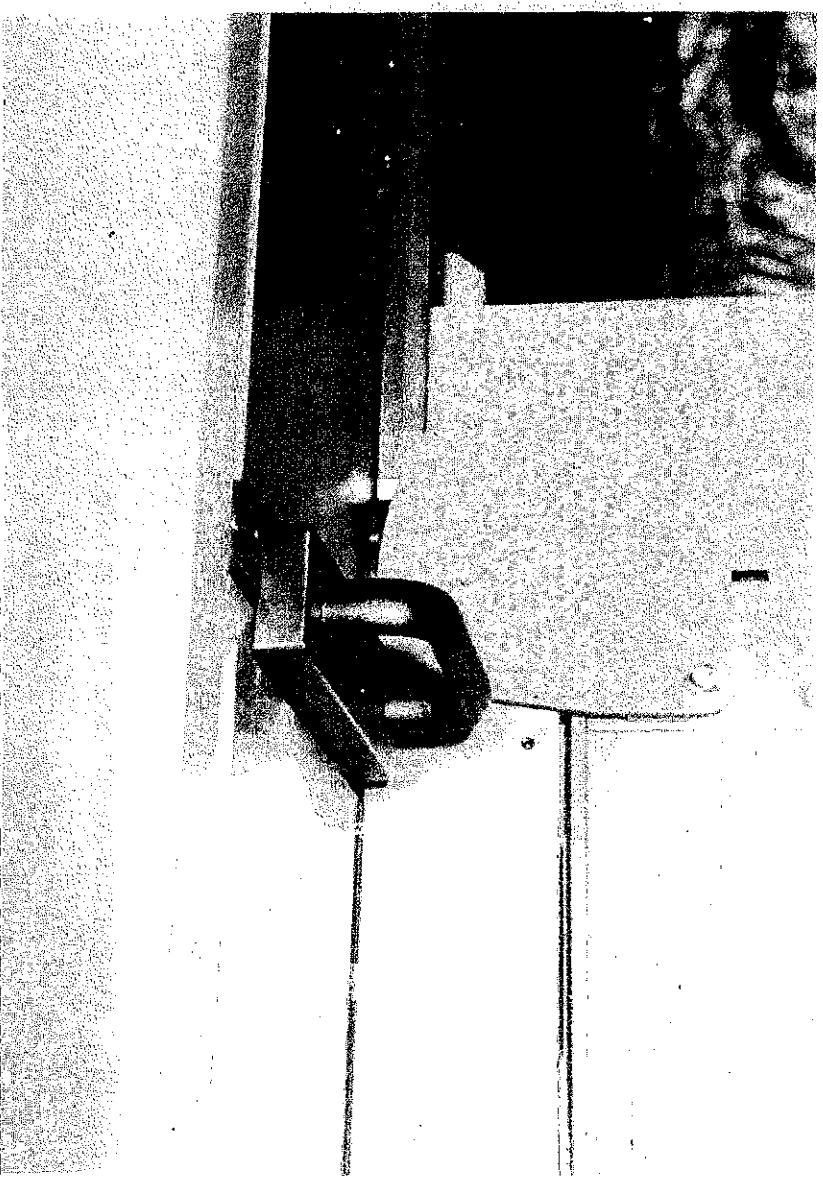

FIG. 36
- f) Place setting device over knife FIG.36, press setting device down until feet on setting device locate on cutterblock. Knife is now correctly set at 1mm cutter projection.